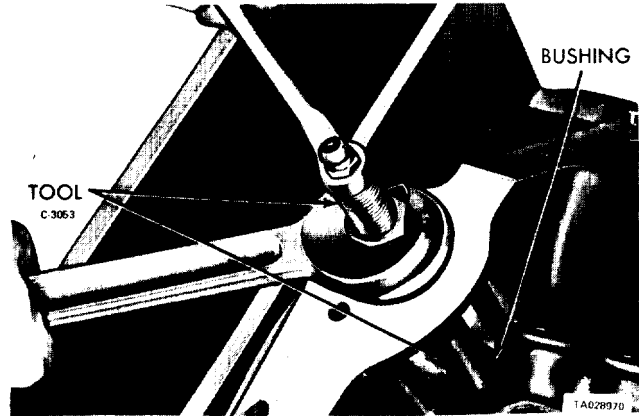

Figure 11-32. Burnishing Distributor Drive Shaft Bushing.
(3) Tighten the puller nut. As the burnisher is pulled through the bushing, the bushing is expanded to fit tightly in the block and is burnished to the correct size (figure 11-32). Do not ream this bushing.